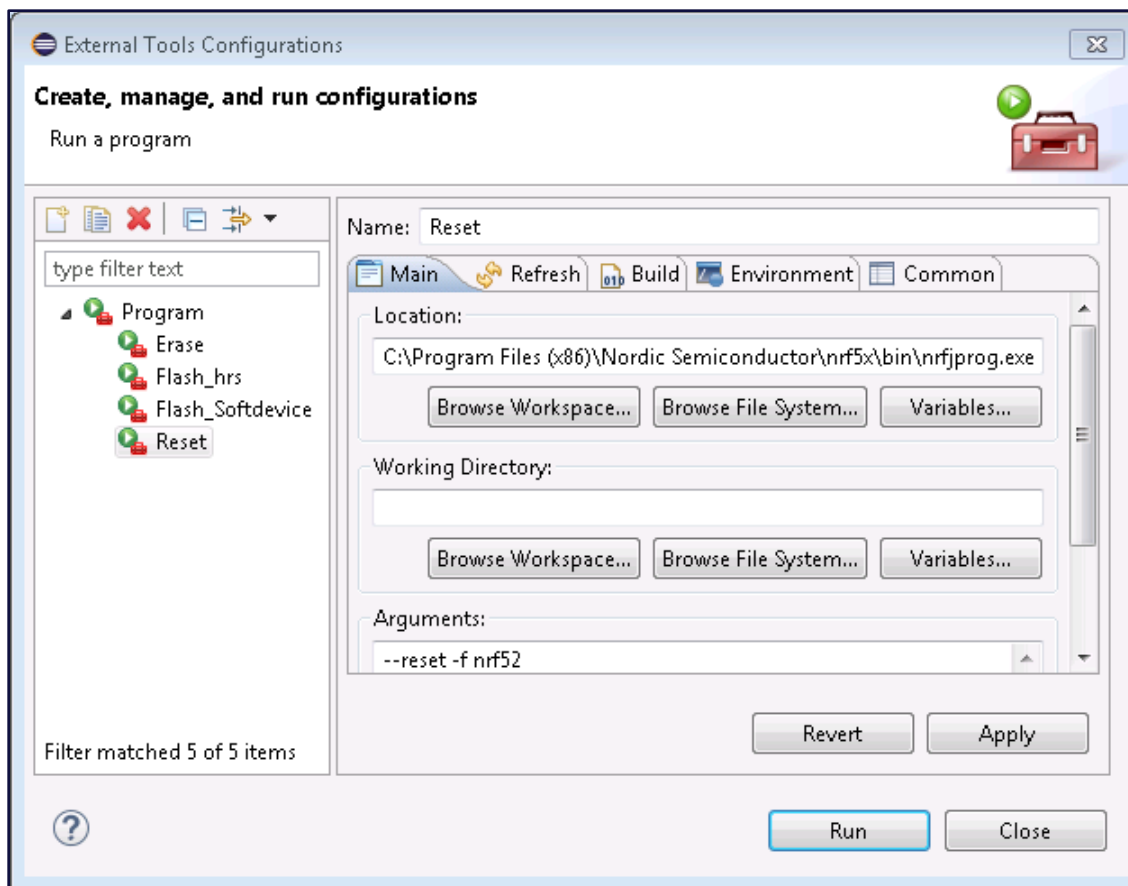

Figure 25: Adding Reset to External Tools Configurations
6. Click **Apply** and then click **Run** (Figure 25).